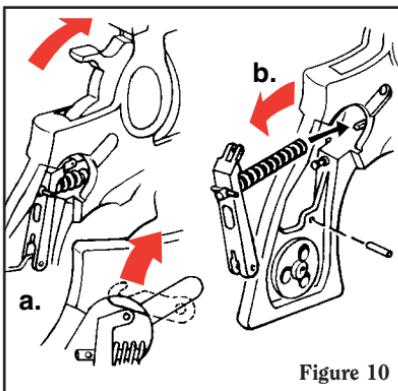
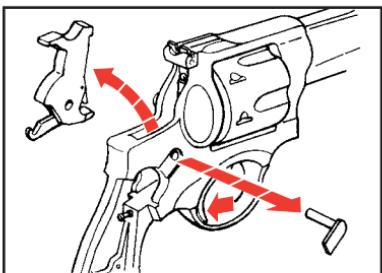

Figure 10
Figure 11
4. With thumb on hammer spur, squeeze trigger allowing hammer to go fully forward. Remove the hammer pivot assembly. With the gun muzzle pointing down, slowly lift the hammer upward and out of the frame (See Figure 11, p. 21). It may be necessary to move the mainspring lever forward in order to cause the hammer link hook to detach from the mainspring lever (See Figure 10 a.). If careful manipulation of the hammer and trigger does not disengage the hook, disengage it with the tip of a jeweler's screwdriver or similar device when the hook is in a near-off position.
5. Push the lever pivot pin out with a small punch or nail and remove the mainspring lever from the frame with mainspring and strut intact. Removal can best be accomplished by twisting the lever slightly as the assembly is drawn from the frame toward the rear (See Figure 10 b.).
The information below applies only to those revolvers in which the Hammer Link is assembled to the hammer with the link hook pointing downward, as illustrated in Figure 10 below.